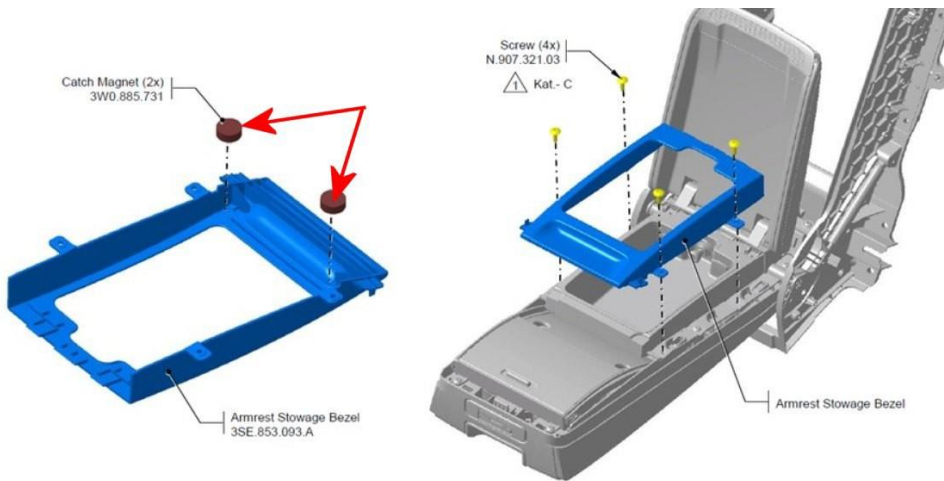

Figure 2
*NOTE: Currently there is no instruction within the repair manual, please refer to Figures 2 and 3 for clarification/instruction regarding disassembly and assembly of the rear arm rest*
- The two catch magnets are located in the armrest stowage bezel (Figure 2)